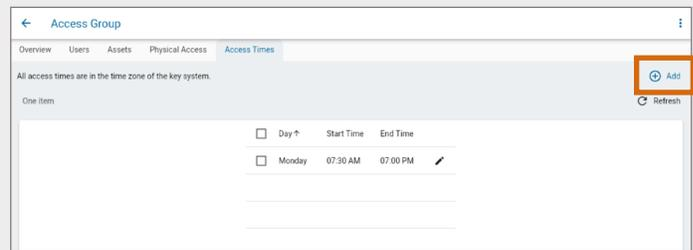

Fig. 109 – Access Group screen – Access Times tab
1. Select the **Access Times** tab, as shown in Fig. 109.